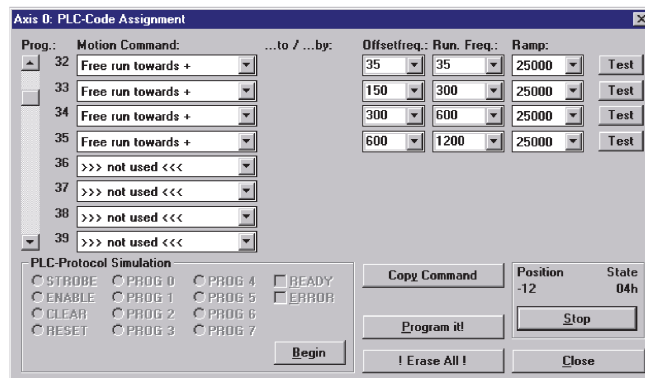

Fig. 14 PLC-code window, time duration mode
In automatic mode the control panel is disabled and step motor is controlled by the control system. In local control mode the step motor can be driven to both directions by using the control panel push buttons, Fig. 14. Automatic/local mode selection is done by AUTO/MAN push buttons. When selecting local control mode the MAN push button must be pressed for more than one (1) second. The lit LED indicates that local control mode (MAN) has been selected. Control unit receives position information from the actuator's potentiometer. This position information is shown as percentage in the panel's LCD display. Control panel has LEDs to indicate limit switch status (open or close).